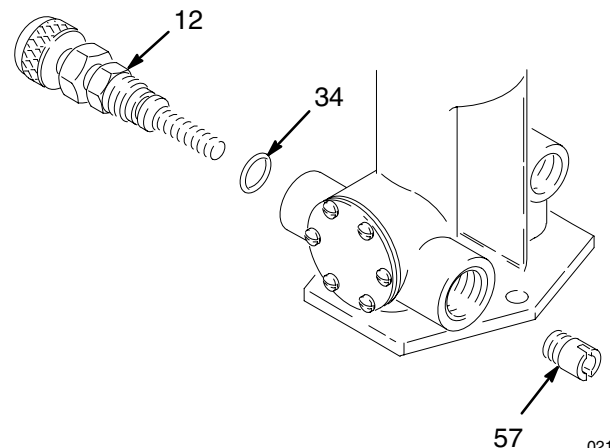

Fig. 8
1. Remove the stem (12) and o-ring (34) from the base. See Fig. 8.
2. Remove the seat (57) from the pump return port with a screwdriver.
- 2  Minimum 0.8 mm (0.032 in.) clearance between washer (37) and piston shaft shoulder.